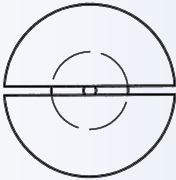
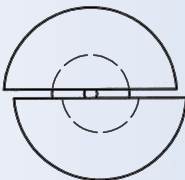

Fig. 10
Fig. 11
**Adjusting:** When a probe is radially bent (Fig. 10) briefly bend with flat pliers directly behind probe-head to other direction (slightly beyond central point because of resilience, Fig. 11).